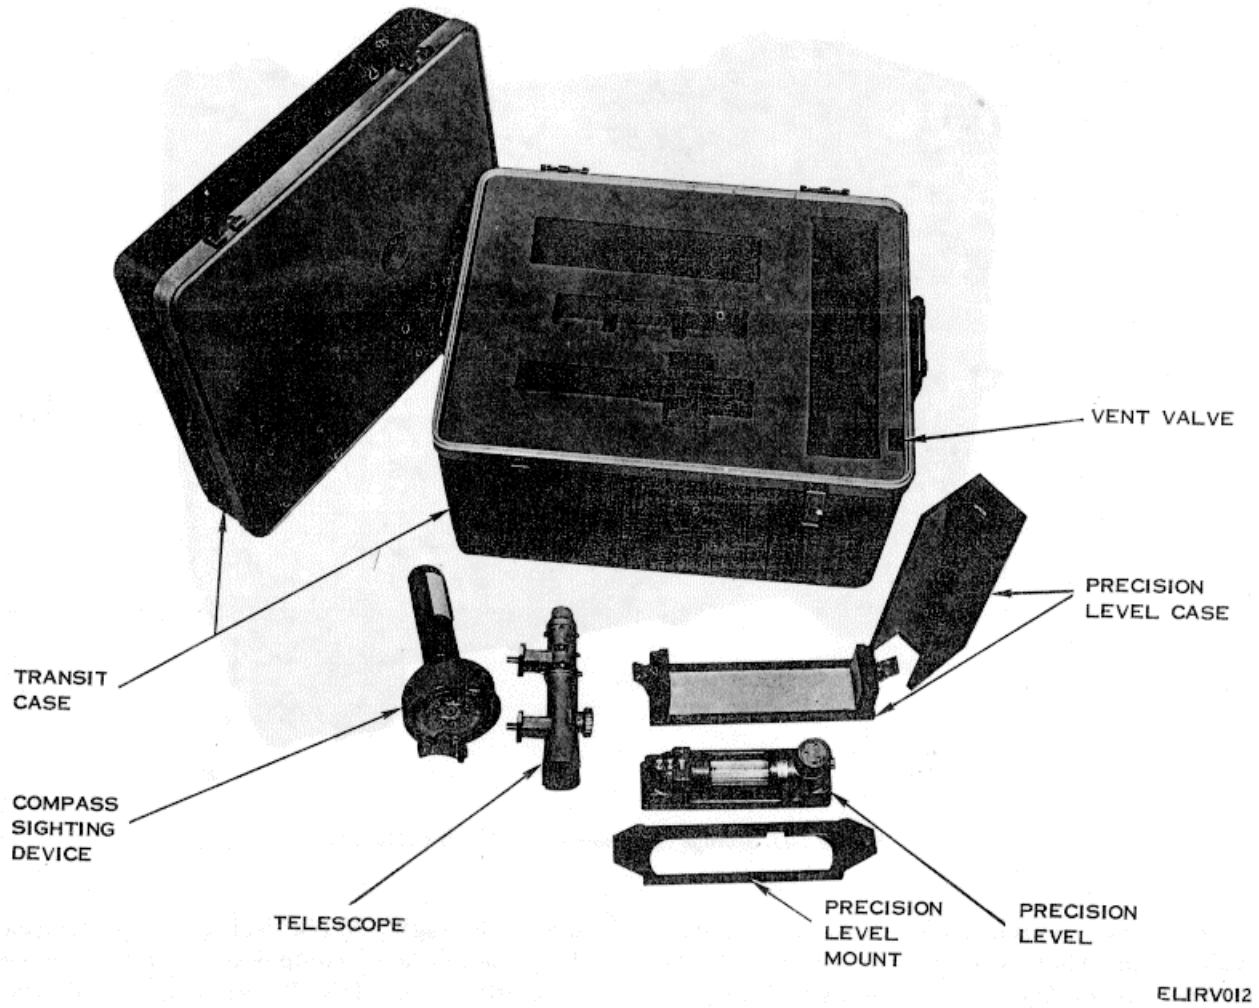

Figure 1-12. Storage container assembly SM-C574241.
b. Storage container assemblies SM-C-574241 and SM-C-574242 (fig. 1-12 and 1-13) are used to store equipment required for installation and orientation of the antenna group.